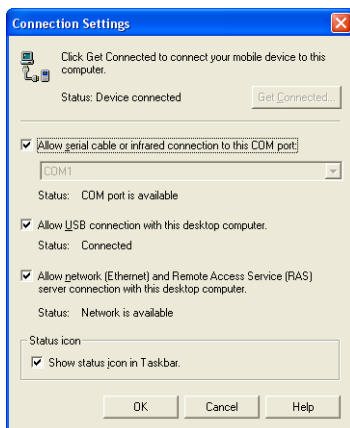

Figure A-5. Connection Settings
3. On the **Connection Settings** dialog box, click and enable the following parameters (Figure A-5):